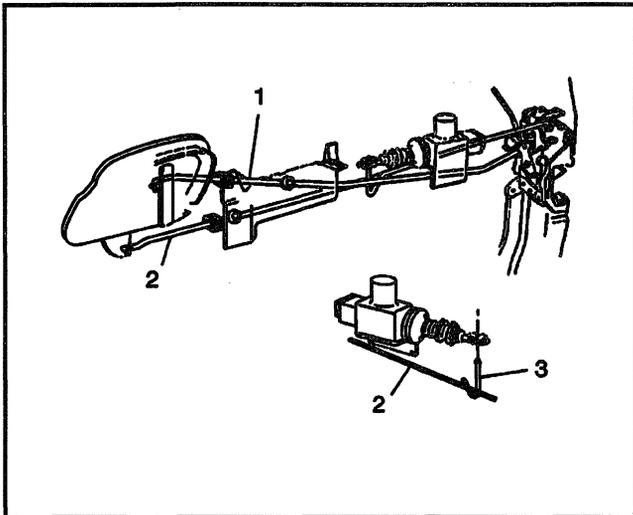

Figure 74—Rear Side Door Lock Actuator Control Rod
5. Actuator from door (Figure 74).